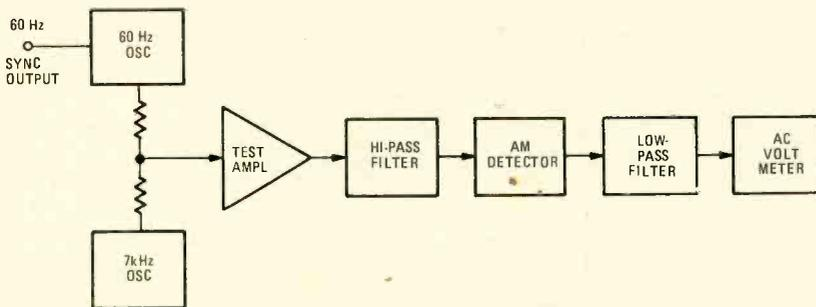

FIG. 1—INTERMODULATION ANALYZER. Two signals are sent through the amplifier; then the effect of one on the other is measured.
An audio amplifier test for intermodulation (IM) distortion usually consists of mixing a 60-Hz signal with a 7-kHz signal—that is, signals at 7,060 Hz and signals at 6,940 Hz are measured. These signals are generated in the amplifier by intermodulation. Figure 1 is the block diagram of a test configuration for measuring IM distortion. Because this technique requires two audio oscillators, two filters, a detector and an audio voltmeter, an IM analyzer is used that incorporates those instruments in a single package.